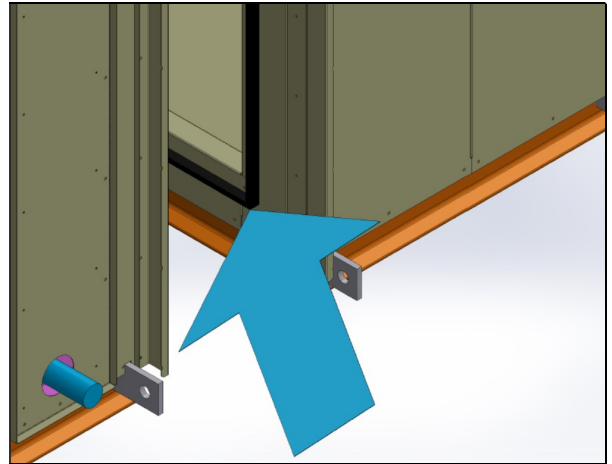
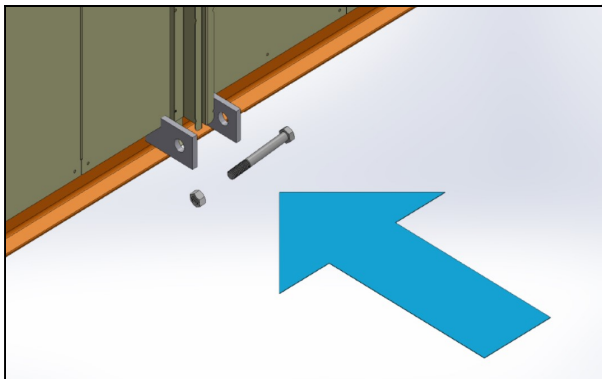
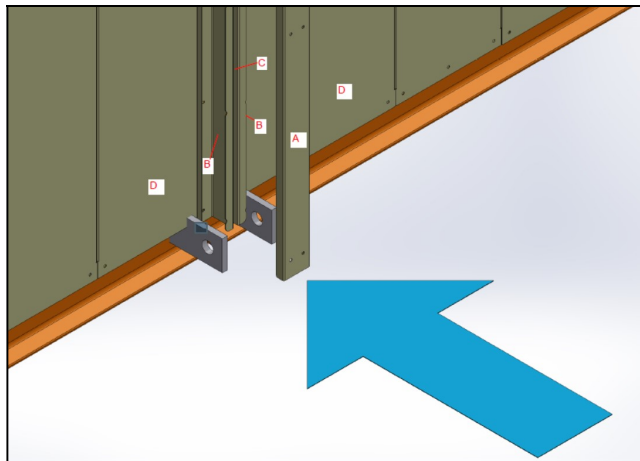

Figure 4: Installation of the Sealing Gasket
Figure 6: Supplied Bolt and nut
Figure 8: Installation of the cover flange on joint section
Note : Please be careful to avoid empty gap between the extremities of the sealing gaskets when a new roll of gasket is starting (**Figure 4**).
- When both sections are aligned, use the supplied bolts and nuts to fasten them together to the corner lifting lugs of both sections. Once fastened, it will bring and secure both sections together while the installed sealing gasket, shown in **Figure 4**, will be well compressed. Two bolts grade 5 and 2 nuts are supplied at each unit joint (**Figure 6**).
- This following step is to blank all pieces of the joint section with a cover flange (**Figure 8A**). Before installing these flanges, you will need to apply generously a bead of sealant (provided by Bousquet) between each fixation flange (**Figure 8B**). Ideally, caulk the joint seams of the unit by filling the cavity (**Figure 8C**) where the sealing gasket was installed in figure 4. If the sealing gasket is too distant from the border, please apply the caulking at the surface of the panel level (**Figure 8D**) where the fixation flanges are located. Please note, sealant is not shown in **Figure 8**.
- Install the cover flange A (**Figure 8**) with the use of metal screws (**not provided** by Bousquet Technologies) on the fixation flanges.